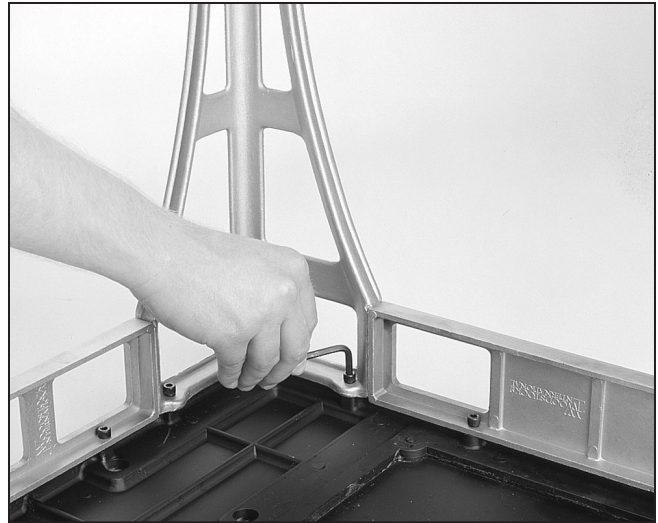

Figure 2. Mounting legs and side panels to the working table.
- Step 2** - Mount the short and long side panels between the legs using the $\frac{1}{4}$ "-28 x $\frac{5}{8}$ " socket head cap screws provided. **Figure 2.**